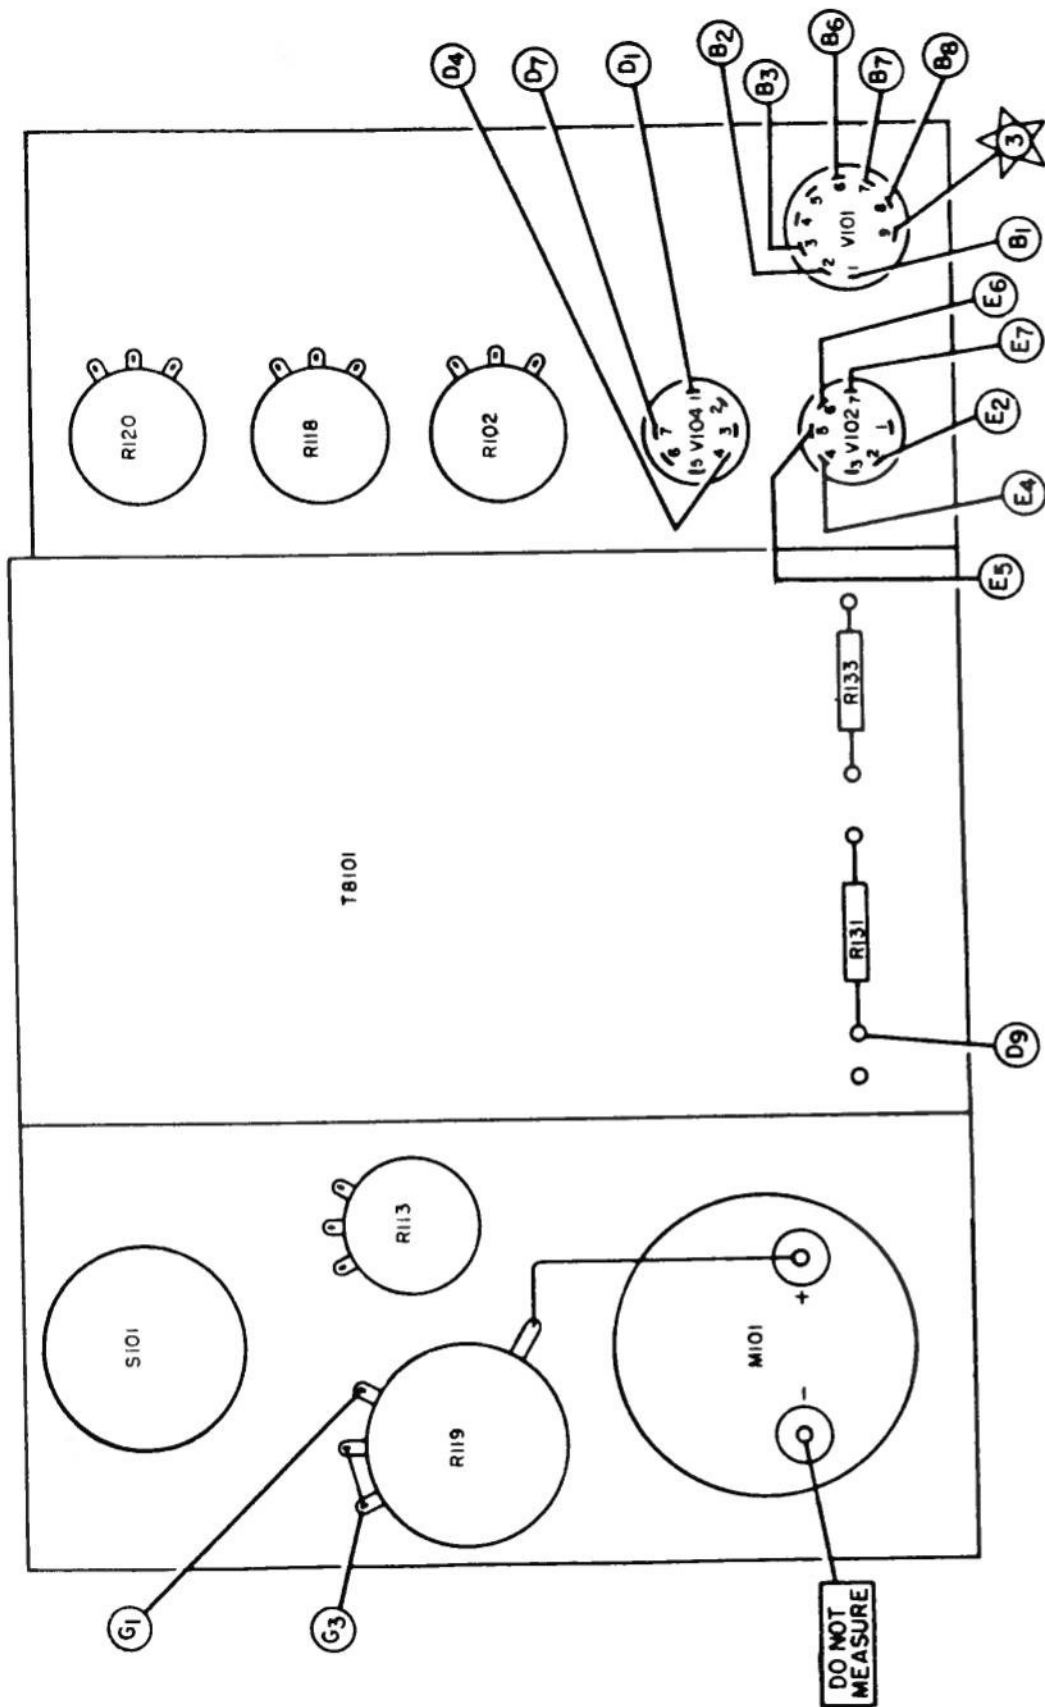
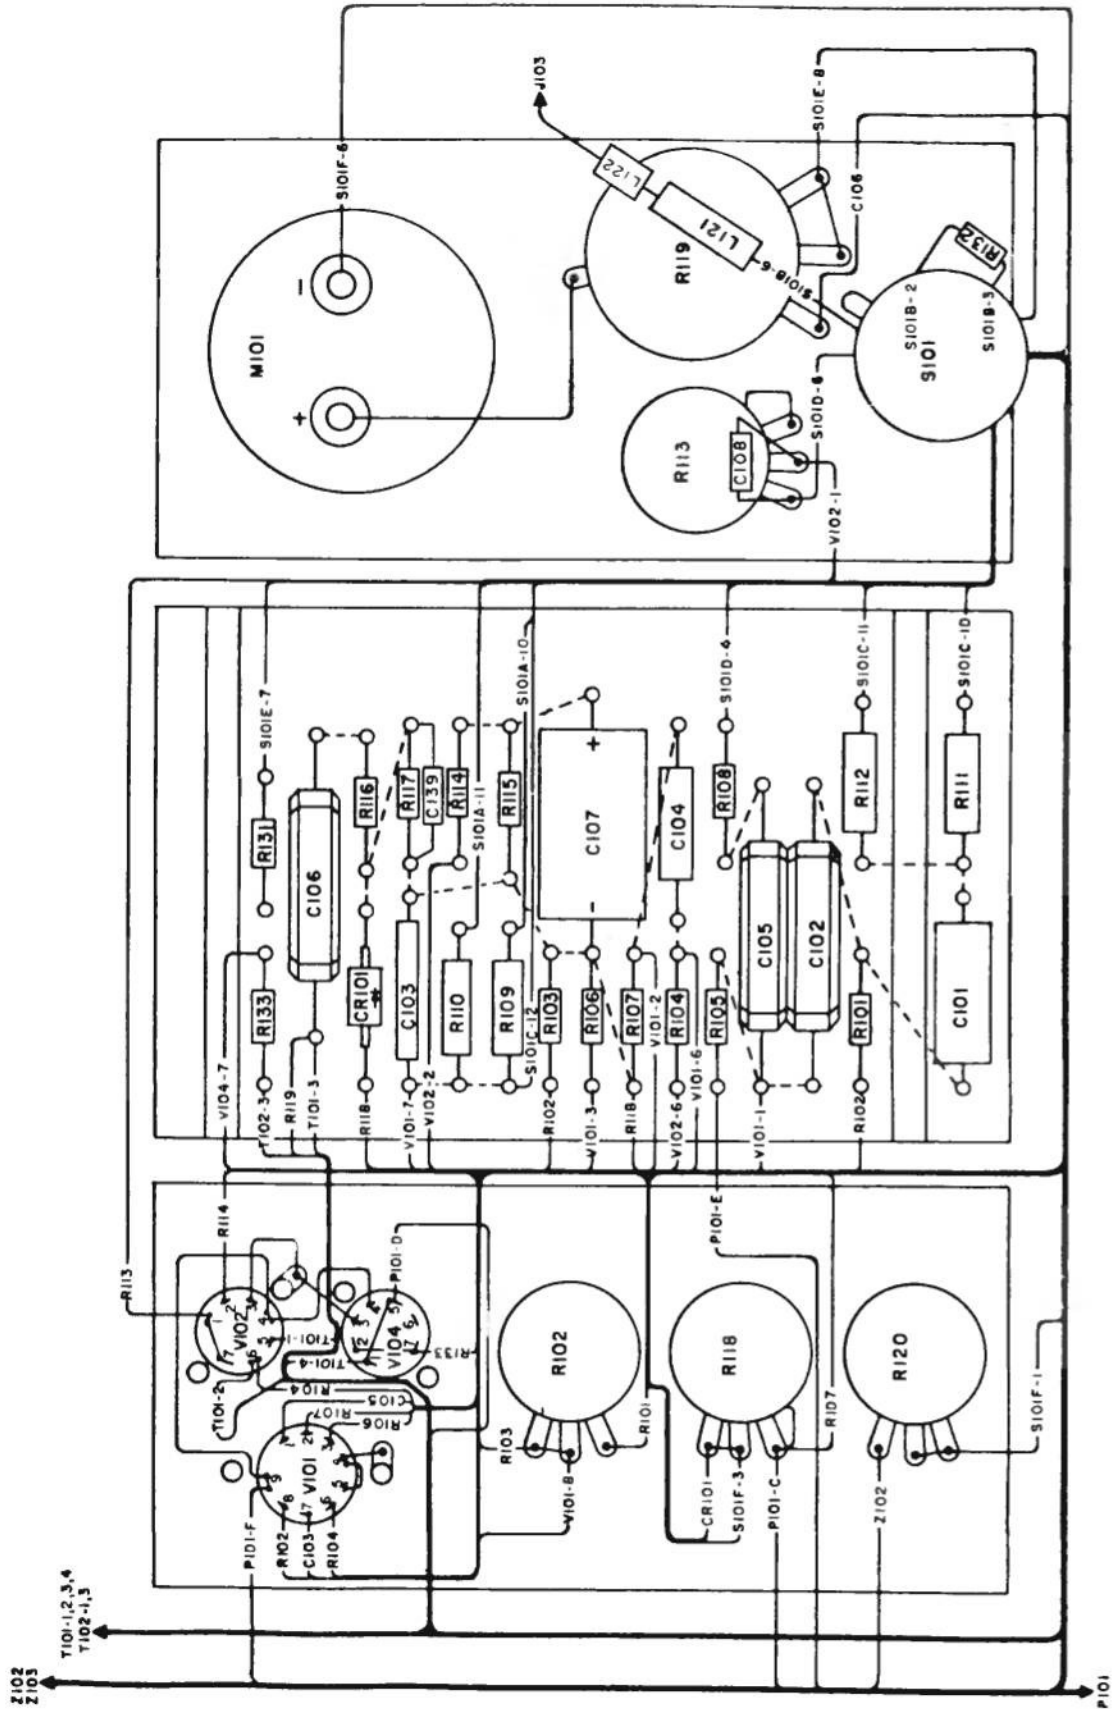
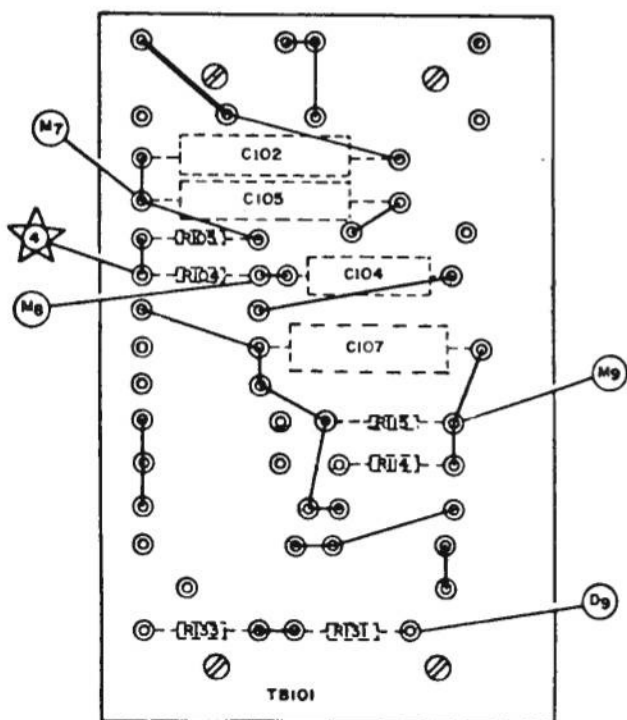

Figure 5-2. Test Points; Audio Oscillator, Modulator and Pulse Circuits with Chassis Folded Back.
Figure 5-3. Wiring Diagram; Audio Oscillator, Modulator and Pulse Circuits, with Chassis Folded Back.
Figure 5-4. Audio and Metering Section Terminal Board, Outside View.
b. **AUDIO OSCILLATOR.** – Expose the audio oscillator section (see paragraph 6-9). Set the signal generator operating in 1000 cycle position. Using Table 5-5 as guide, follow the steps in order, connecting Multimeter AN/USM-116 (or any equivalent vacuum-tube-voltmeter) to the proper test points, taking the preliminary action indicated in the third column of the table, then see the normal indication in the next column. The last column directs you to the next step. Fig. 5-2 is the test point diagram, and figure 5-3 is the wiring diagram. Figure 4-7 is the partial schematic diagram.
c. **MODULATOR.** – Note figure 5-2 showing test points of modulator, with figure 5-3 showing wiring diagram. Use Table 5-6 as guide, follow the steps in order, connecting Multimeter AN/USM-116 (or any equivalent vacuum-tube-voltmeter) to the proper test points, taking the preliminary action indicated in the third column of the table, then see the normal indication in the next column. The last column directs you to the next step.
d. PULSE MODULATOR. – Expose the pulse limiting stage (see paragraph 6-9), so that the test points are available as in figure 5-2. Figure 4-5 shows the simplified schematic diagram. Figure 4-6 shows the oscilloscope hookup to observe pulse waveform. Figure 5-3 shows the wiring diagram of this stage. Figure 5-4 shows the audio and metering section terminal board. Figure 5-5 shows the modulation and pulse transformers. Using Table 5-7 as guide, follow the steps in order, connecting the appropriate test instruments as follows (see figure 4-6). Turn on signal generator, set for 100 mc, CW. Set CARRIER LEVEL so meter reads to red line. Switch to PULSE. Turn on the pulse generator (Signal Generator AN/USM-27A) to 10 Usec pulse length, +PULSE, 40 PULSE VOLTS, PULSE REP RATE KC to 0.1, connecting PULSE OUT to PULSE INPUT J103 of signal generator. Connect SYNC OUT of pulse generator to EXT SYNC terminal of Oscilloscope AN/USM-17. Connect RF OUTPUT J101 of signal generator through 1N126 UHF Diode to the V. INPUT of the oscilloscope. The SYNC VOLTS control of the pulse generator will adjust the trace to synchronization with the switch in + SYNC position on the pulse generator. Set the oscilloscope horizontal sweep to 100 cps. Take the preliminary action indicated in the third column of Table